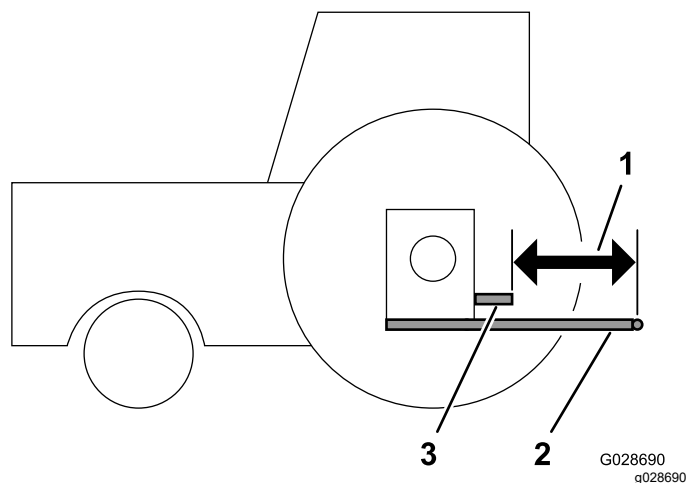

Figure 9
between them and the end of the PTO output shaft (Figure 9).
2. Measure the distance between the end of the PTO output shaft and the attachment point of the lower trailing arms (Figure 9). Record your measurement here: